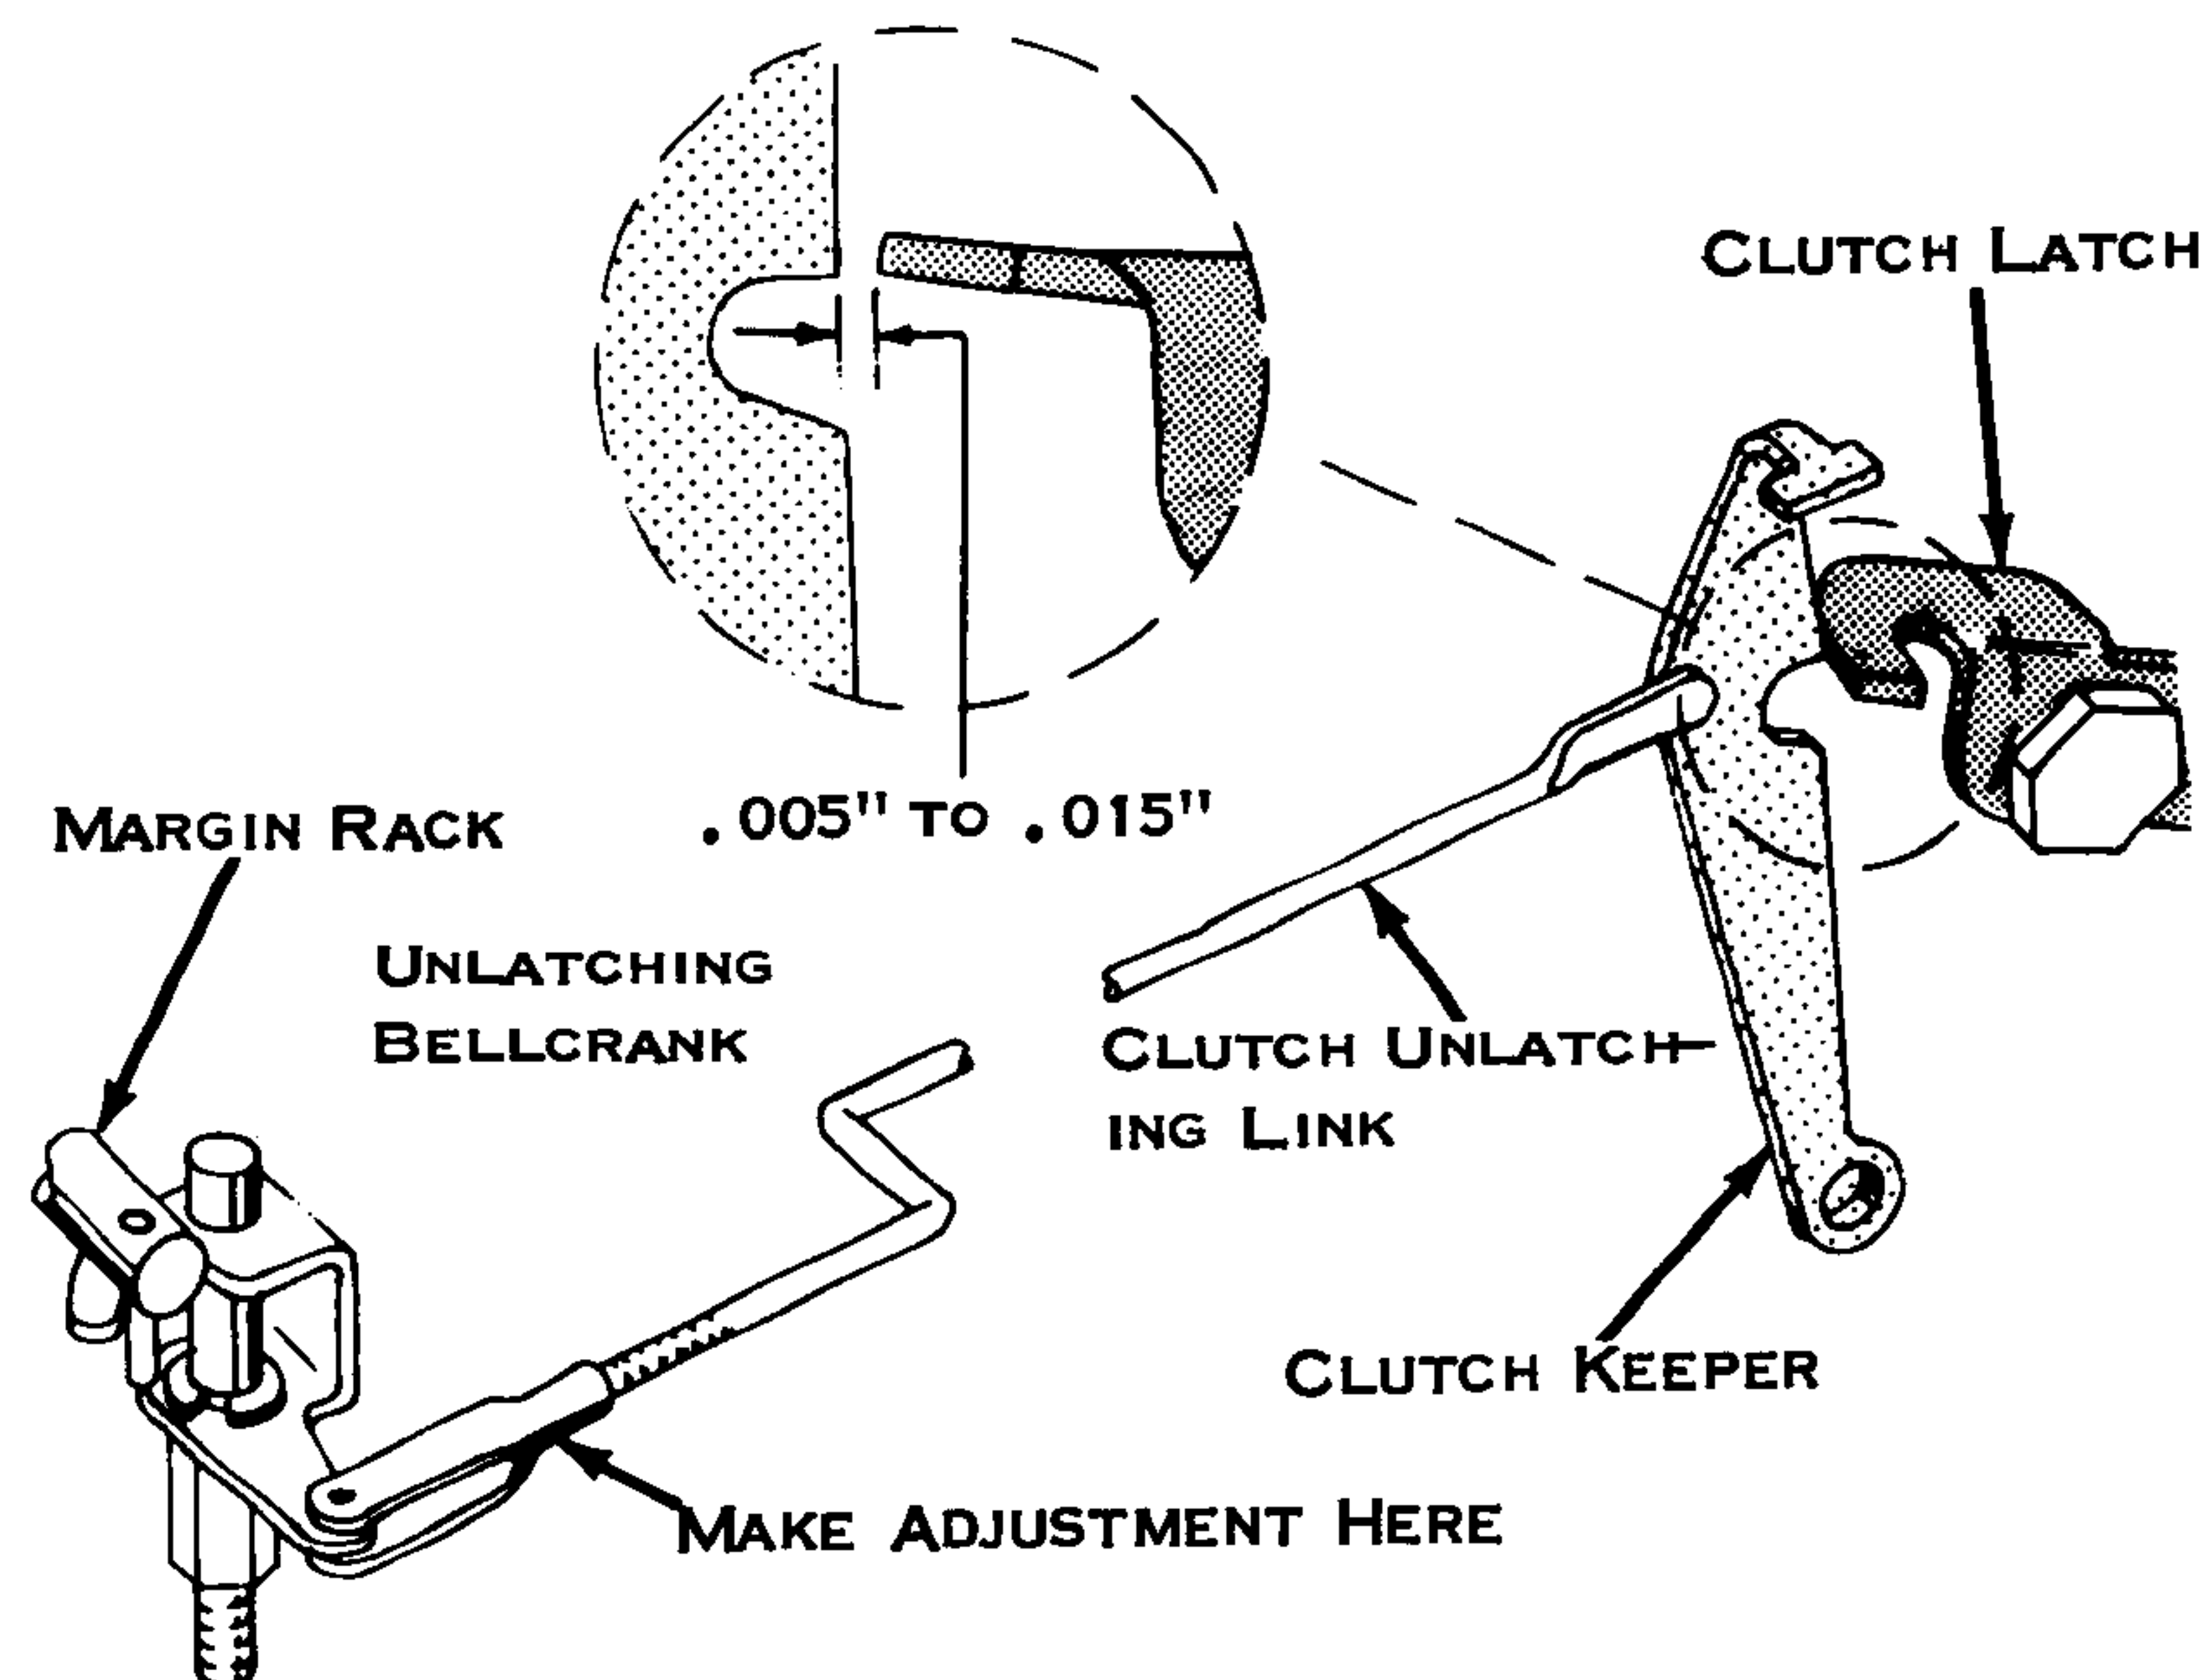

Figure 184. Clutch Unlatching Link
- Clutch Unlatching Link (Fig. 184) - Adjust so that when the margin rack is held fully to the left against the bushing, the carrier return latch keeper will clear the latch by .005" to .015" at the unlatching point.
- Form the N/O support so that the O/S clears the N/O contact .035" to .045" (Fig. 184).